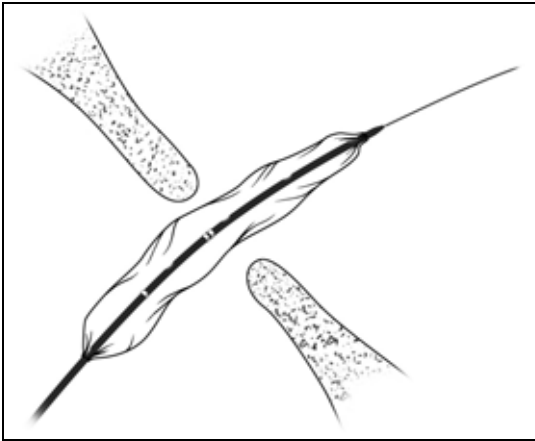

Figure 2. Balloon alignment
7. Gradually move the imaging source to visualize the 0.4mm space between the pair of marker bands in the center of the balloon (figure 2). This aligns the imaging source with the balloon to achieve the best angle for size measurement.